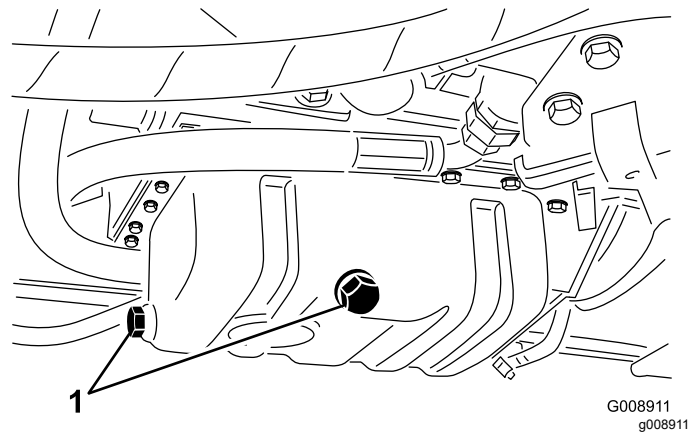

Figure 63
3. Remove either drain plug (Figure 63) and let the oil flow into a drain pan; when the oil stops flowing, install the drain plug.